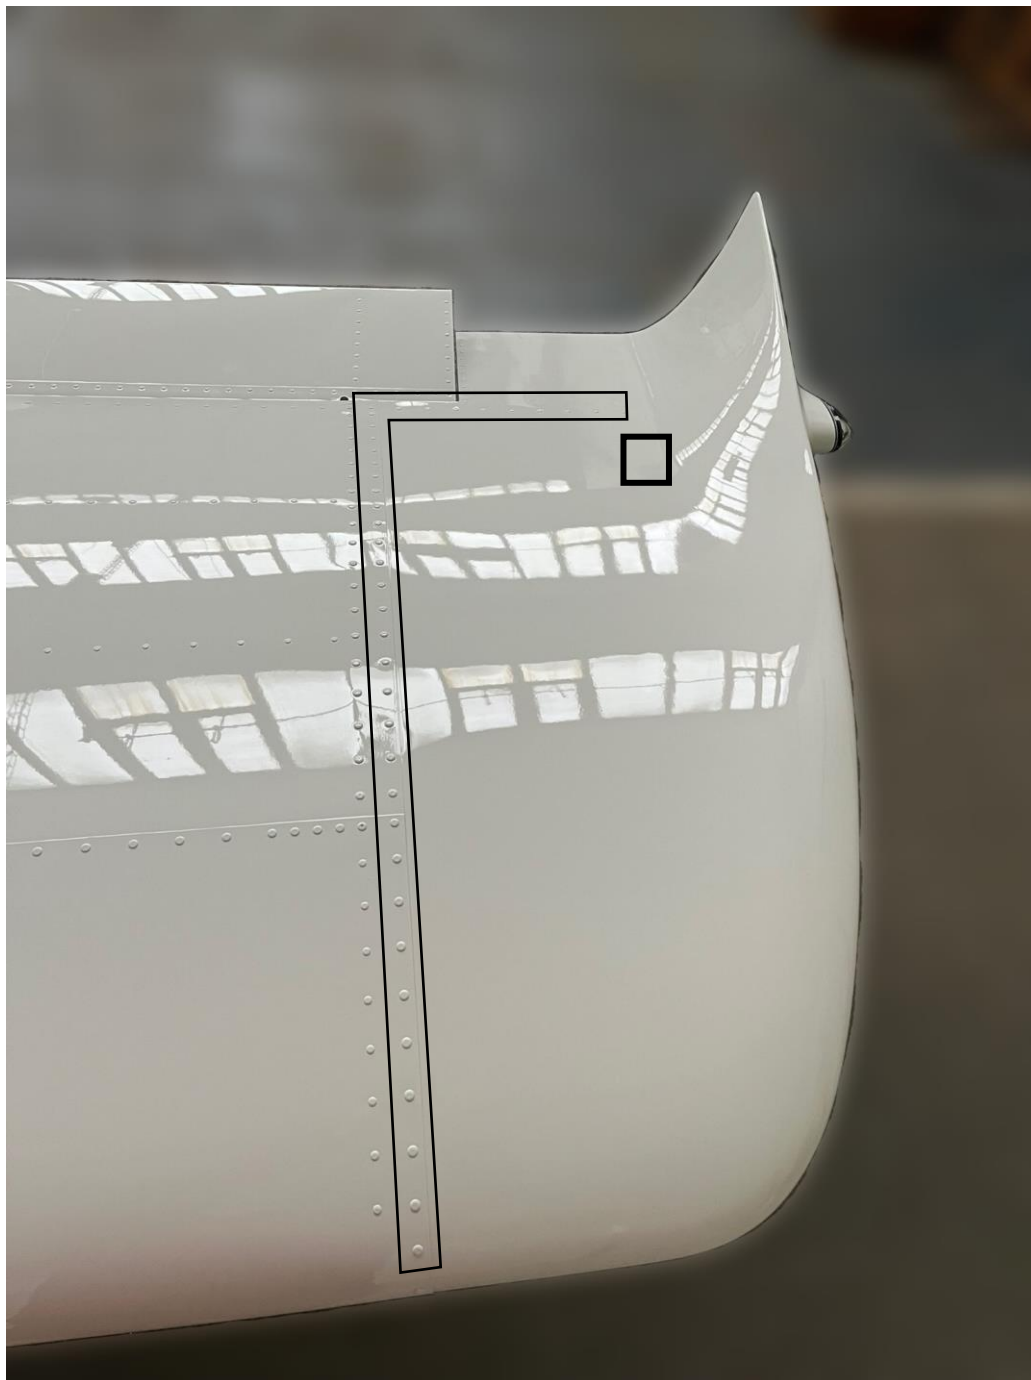

Fig. 5: Winglet rivets (top)
8) Install the winglet. Use rivets (005). See Fig. 5.